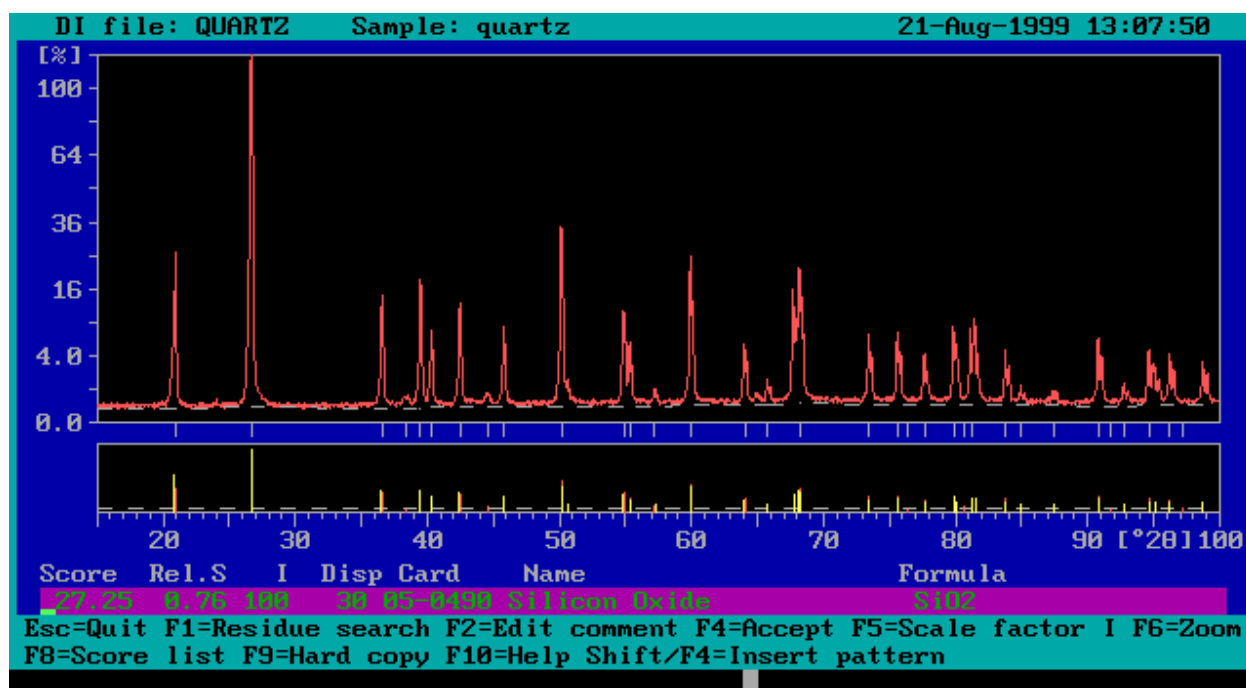

Figure 7
- Press F8 to go to graphics mode. You will be prompted with a screen similar to Figure 7.